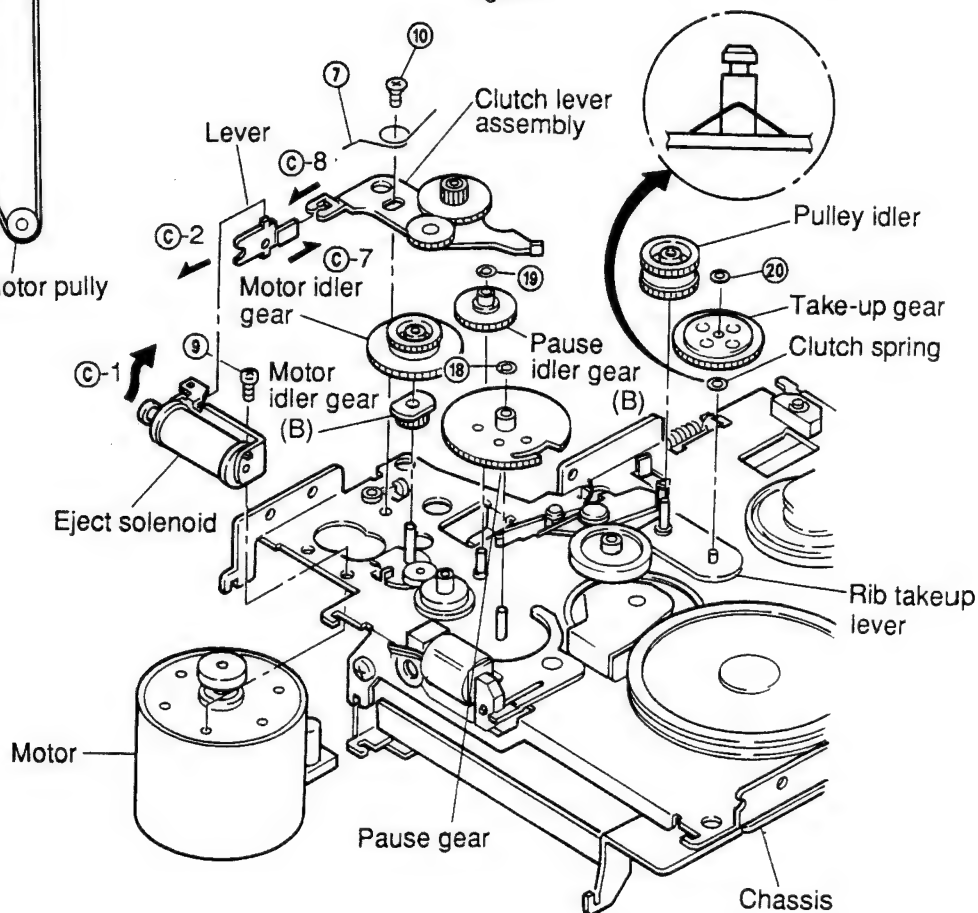
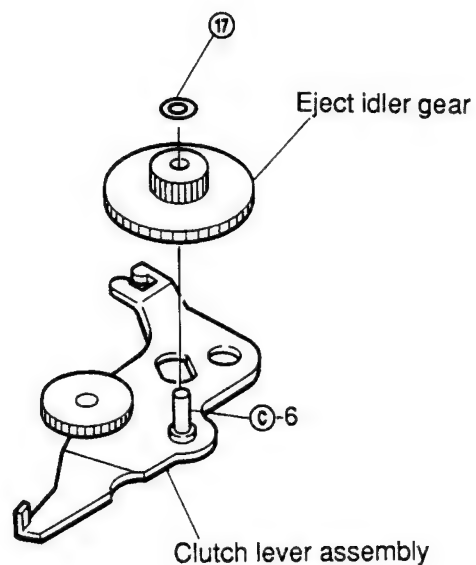

Figure 10
Figure 15
- (1) After removing the belt, remove spring ⑦ as shown in Figure 10.
- (3) Remove two screws ⑨ and ⑩, and remove the motor, taking care not to damage the motor idler gear. (Refer to Figure 10.)
- (4) Mount the new motor following the removal steps in the reverse order.
- (2) Remove screw (9) and remove the play solenoid as shown in Figure 10.
- (3) Align position (C)-1 of the new solenoid with position (C)-2 of the lever and fasten the screws as shown in Figure 10.
- (4) Lead the wire through the tube and solder it.
- (1) After removing the motor, remove the motor idler gear and the motor idler gear (B) and remove the clutch lever assembly as shown in Figure 10.
- (2) Remove M1.2 lock washer ⑰ and remove the eject idler gear as shown in Figure 15.
- (3) Mount the new gears and clutch lever following the removal steps in the reverse order.
Note: When mounting the gears to the lever, apply grease (FLOIL 425A) to the position ㉔-6 as shown in Figure 15. Align the position ㉔-7 with the position ㉔-8 and mount the clutch lever as shown in Figure 10.
- (1) Remove M1.2 lock washer ⑱ and remove the pause gear pulling it up from the stud of the chassis as shown in Figure 10.
- (2) Mount the new gear following the removal steps in the reverse order.
- (1) After removing the motor and the motor idler gear, remove M1.2 lock washer ⑲ and remove the gear by pulling it up from the stud of the chassis as shown in Figure 10.
- (2) Mount the new gear by following the removal steps in the reverse order.
- (1) After removing the belt and the pulley idler gear, remove M1.2 lock washer ⑳ by pulling it up from the stud of the rib take-up lever assembly as shown in Figure 10.
- (2) Remount the take-up gear following the removal steps in the reverse order.